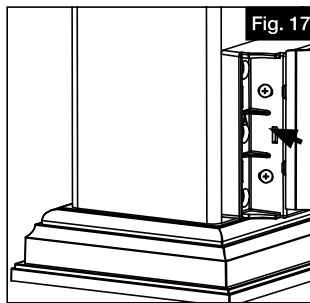

Fig. 17
- c. Match letter on inside of bracket cover to the letter on bracket, and snap cover in place. Repeat for all brackets (Fig. 17).